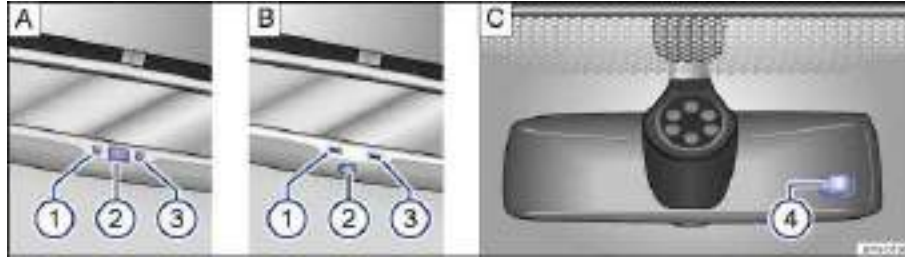

Fig. 86 Self-dimming rearview mirror (if equipped).
Key to fig. 86:
- One sensor on the side facing the interior to measure light from *the rear* of the vehicle ⇒ fig. 86 A \(3\) or ⇒ fig. 86 B \(3\).
- One sensor on the side facing the windshield to measure light from *the front* of the vehicle ⇒ fig. 86 C \(4\).